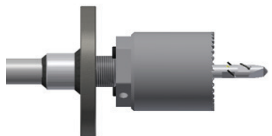

Figure 5
3.0.3) Thread adaptor/cutter onto the 75" saw mandrel until tight (nylon locking feature will prevent adaptor from unthreading), hex pattern may be used for tightening/ loosening (see Figure 5).